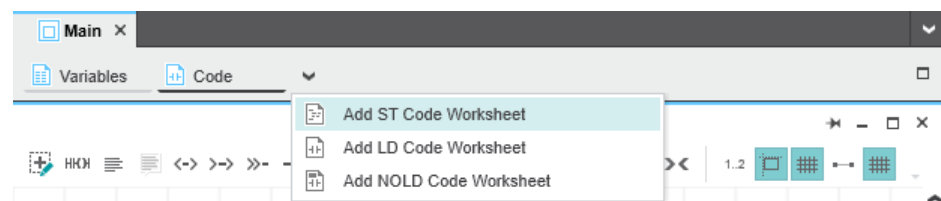

Figure 4-27 Adding a code worksheet to a POU
- Select a worksheet in the program editor (in Figure 4-27: “Code” editor).